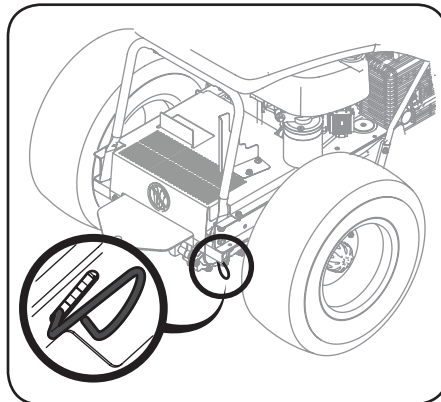

Figure 2-1
NOTE: This Operator's Manual covers several models. Features may vary by model. Not all features in this manual are applicable to all models and the model depicted may differ from yours. Refer to Figure 2-1 to match your transmission style; Foot Control CVT (Continuously Variable Transmission), CVT (Continuously Variable Transmission) or Hydrostatic.
1. Engage the transmission bypass rod to move the tractor manually without starting it. The transmission bypass rod is located on the inside of the right tire near the rear of the tractor. Engage the bypass rod by pulling out and down. See Figure 2-1.
2. Disengage the bypass rod by lifting up and allowing the rod to move back in after moving the tractor. See Figure 2-1.